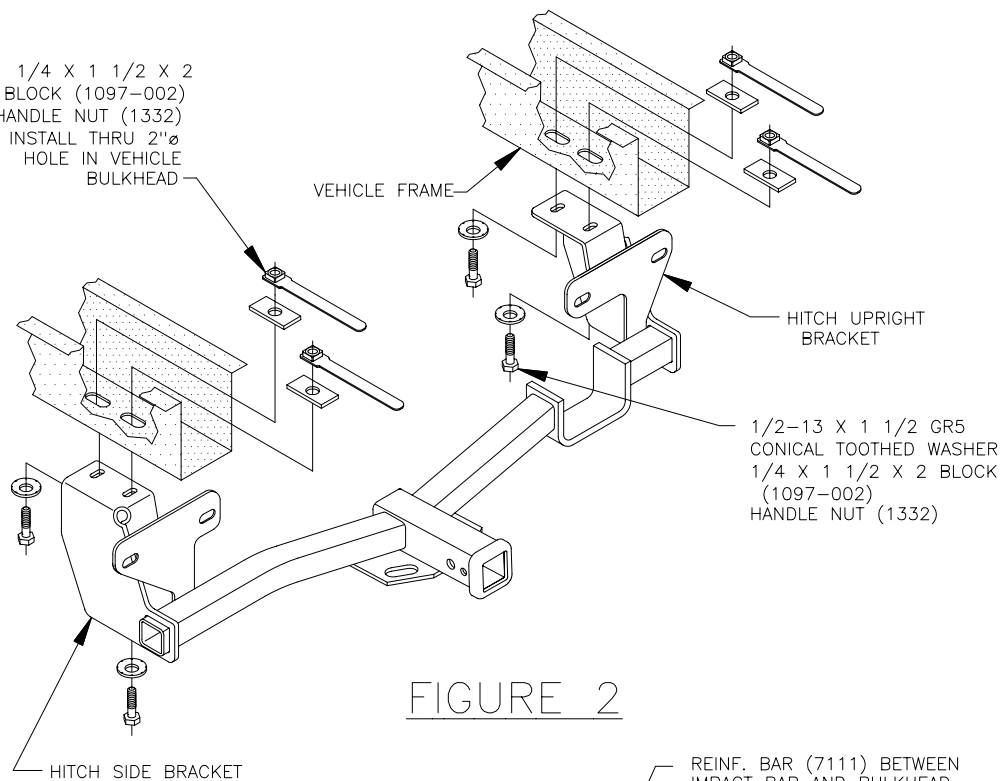

FIGURE 2
- INSTALL 1/2-13 X 1 1/2" HEX HEAD BOLT AND CONICAL TOOTHED WASHER THRU SLOTS IN HITCH SIDE BRACKETS AND INTO HANDLE NUTS, SEE FIGURE 2. DO NOT TIGHTEN AT THIS TIME.